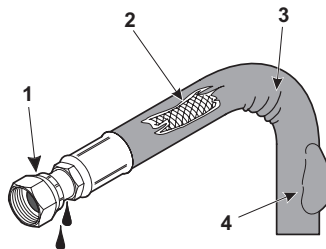

Figure 3-8 Hydraulic Hose Damage
- Some examples of common hydraulic hose damage are shown in **Figure 3-8**.